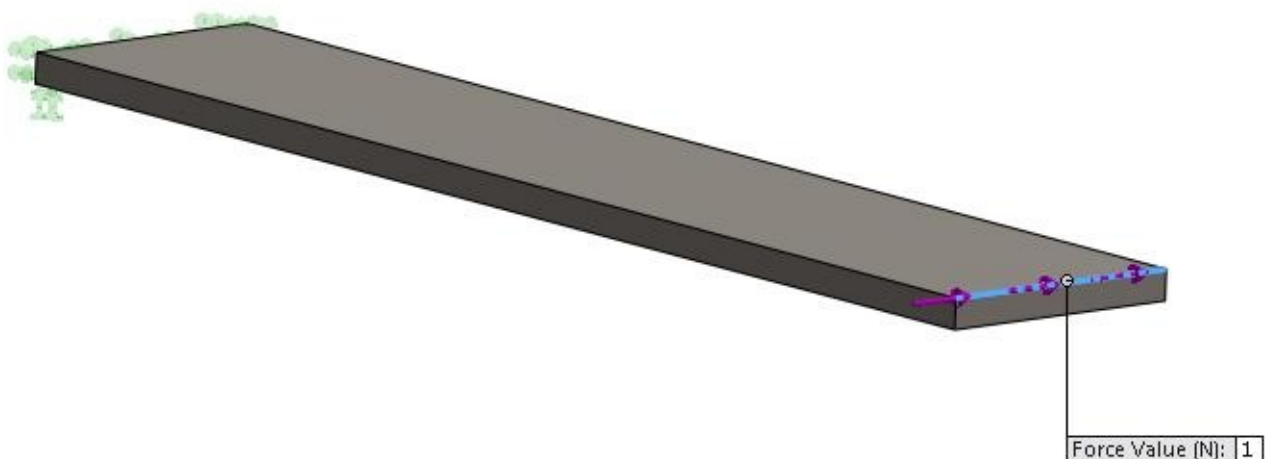

Figure-9. Edge selected for applying force
- Click on the OK button from the dialog box and then select the edge as shown in Figure-9 to apply the force.